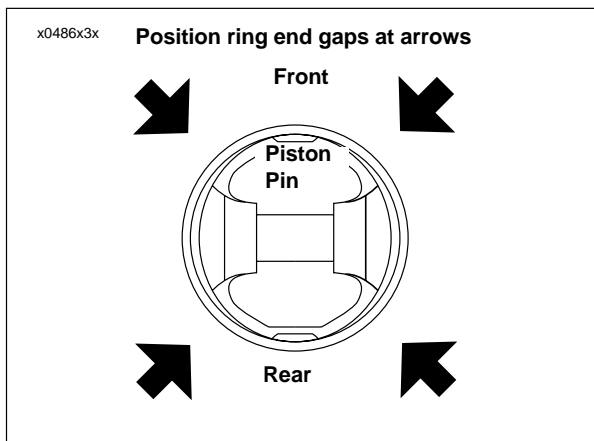

Figure 3-94. Ring End Gap Position
- See Figure 3-94. Install rings so end gaps of adjacent rings are a minimum of 90° apart. Ring gaps are not to be within 10° of the thrust face centerline.